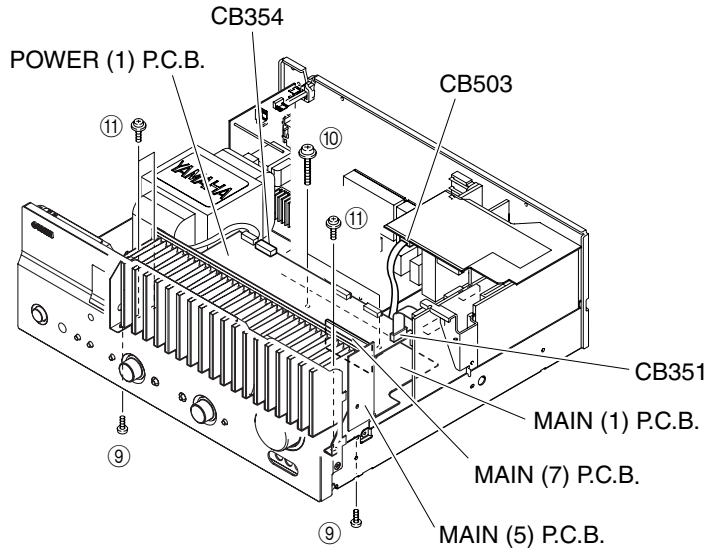

Fig. 5
7. Removal of MAIN (1), MAIN (5), MAIN (7) and POWER (1) P.C.B.s
- a. Remove CB351, CB354 and CB503. (Fig. 5)
- b. Remove 2 screws (⑨), 2 screws (⑩) and 3 screws (⑪). (Fig. 5)
- c. Remove MAIN (1), MAIN (5), MAIN (7) and POWER (1) P.C.B.s.. (Fig. 5)